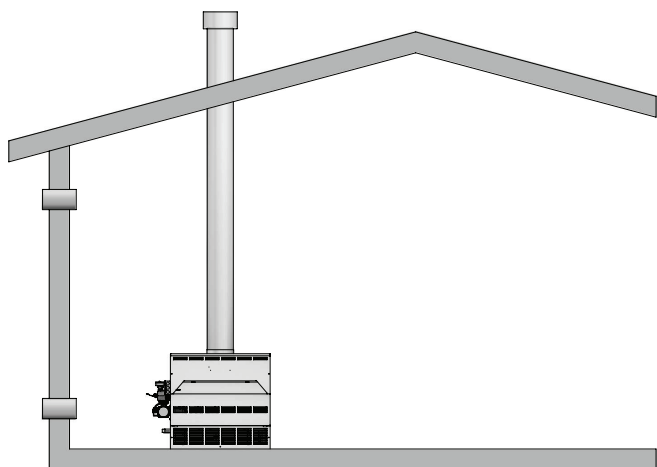

Figure 1-3 *_Combustion Air Direct from Outside*
1. If air is taken directly from outside the building with no duct, provide two permanent openings (see FIG. 1-3):